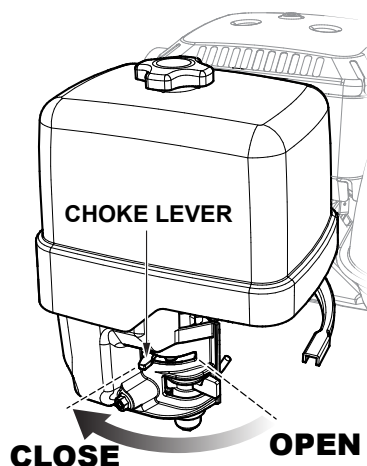

Figure 31. Choke Lever (CLOSED)
5. If starting a cold engine, place the choke lever in the **CLOSED** position (Figure 31).
8. If the engine has started, slowly return the choke lever to the **CLOSED** position (Figure 31). If the engine has not started, repeat steps 1 through 6.